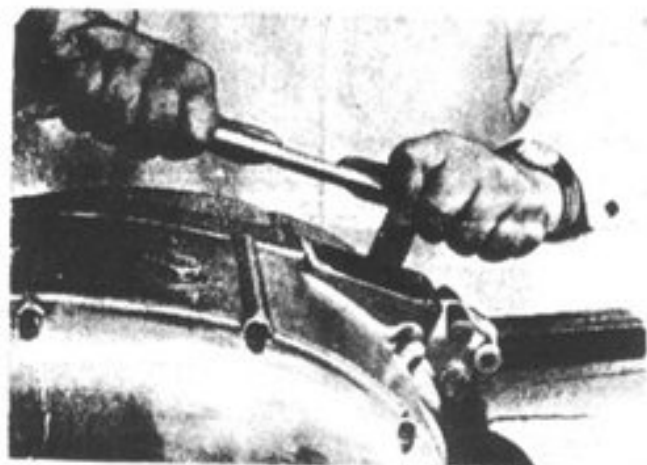

Fig. 26. Unscrewing the outboard flywheel fastening screw, HЖ-Ю-3 motorcycle.
7. Slacken the bolt tightening the outboard flywheel using a box spanner (Fig. 26).